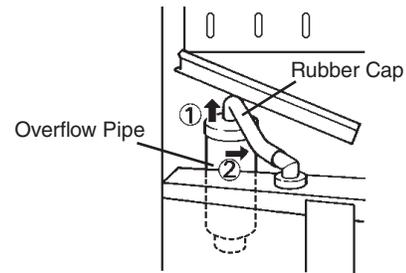

Fig. 3
5) Drain the water tank by removing the rubber cap covering the overflow pipe in the water tank. Remove the overflow pipe by turning it counterclockwise. See Fig. 3.